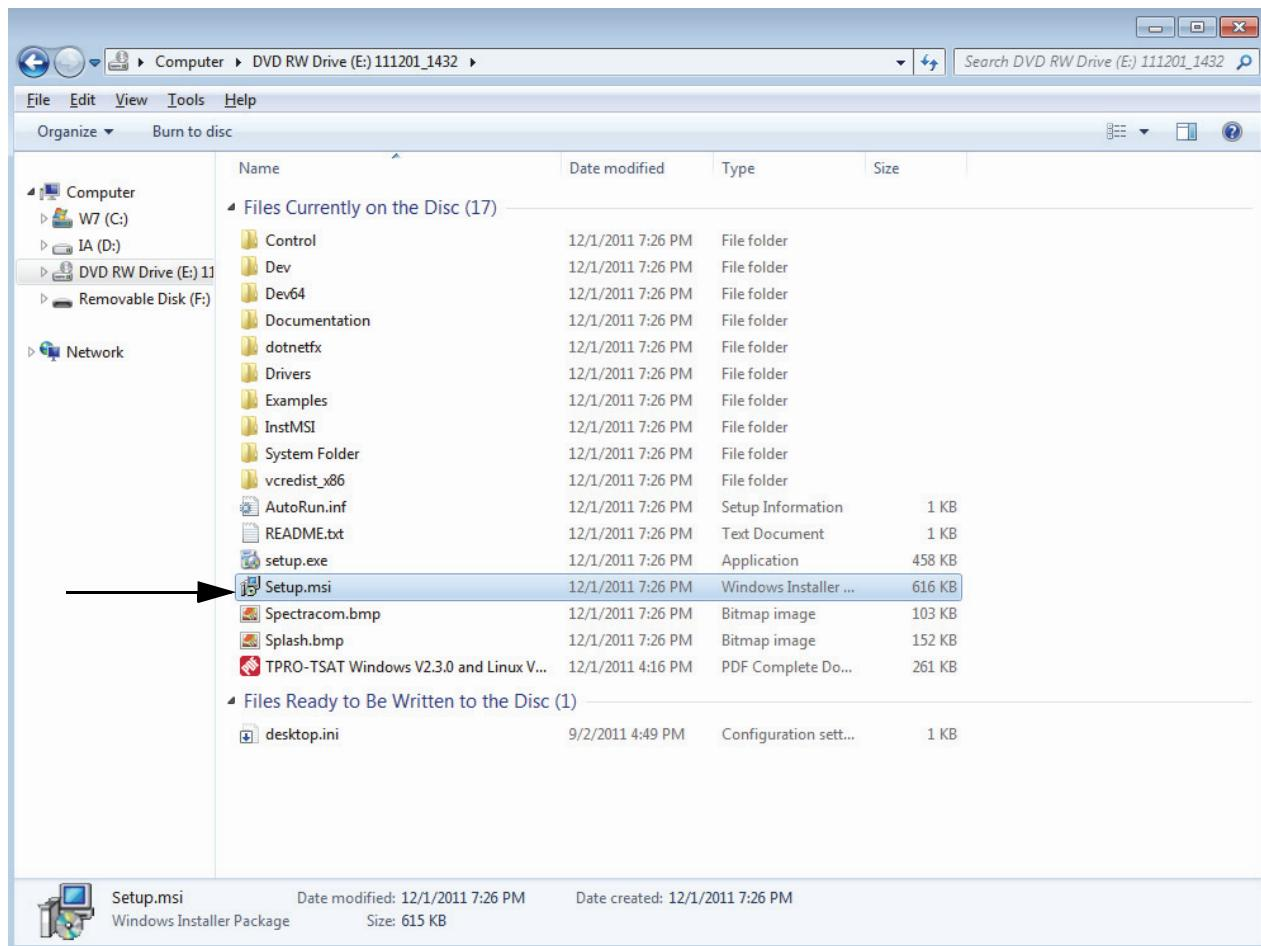

Figure 5-29. Control Utility Setup.msi Window
2. Click the Start button, and then select **All Programs -> Accessories -> Windows Explorer**. In Windows Explorer, browse to the CD/DVD drive and double-click **Setup.msi** as shown in Figure 5-29.